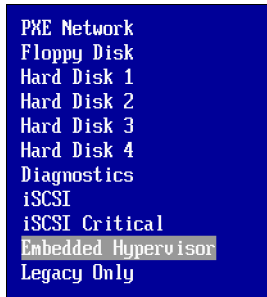

Figure 6-41 Boot options: Embedded Hypervisor selected
4. Select **Embedded Hypervisor**, as shown in Figure 6-41. If either option is not listed, the option is already in the boot list. When you have finished, press the Esc key to go back to the Boot Manager panel.